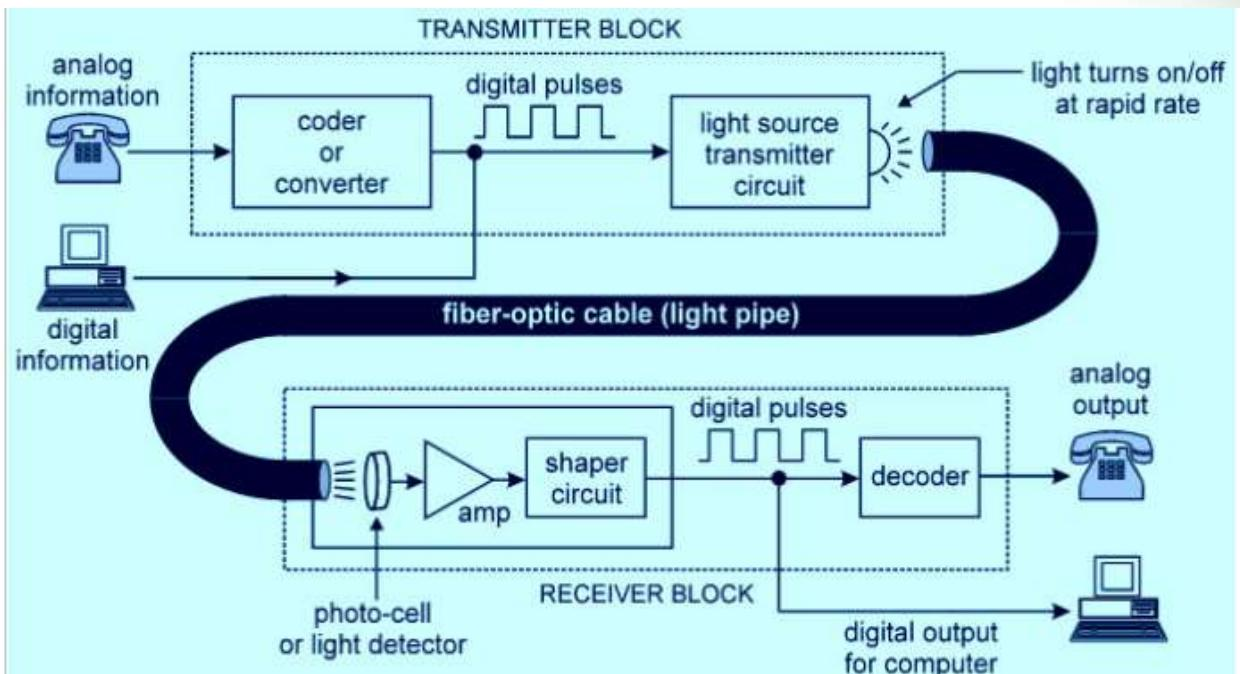

Fig. 1.29 Fibre optic communication system
1. The general block diagram of optical communication systems is shown in Fig. 1.29.